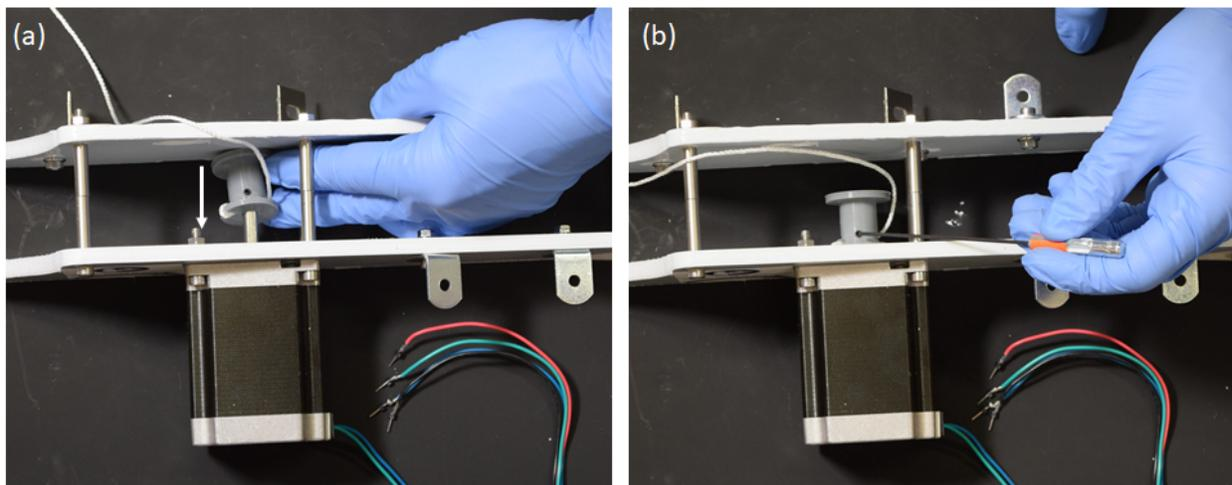

Figure 23
Step 49: Place the **spool [Part 29], twine [Part 28]** assembly inside the base aligning the shaft hole with the **stepper motor [Part 14]** drive shaft. Be sure to place the **spool [Part 29]** oriented such that the **twine [Part 28]** tie off is closest to the **stepper motor [Part 14]** and the set screw is perpendicular to the flat of the drive shaft (Fig. 23).
Step 50: Slide the **spool [Part 29]** until the wall closest to the **stepper motor [Part 14]** is close to aligned with the inside face of **Base 1 [Part 9]** and tighten the set screw (Fig.23).